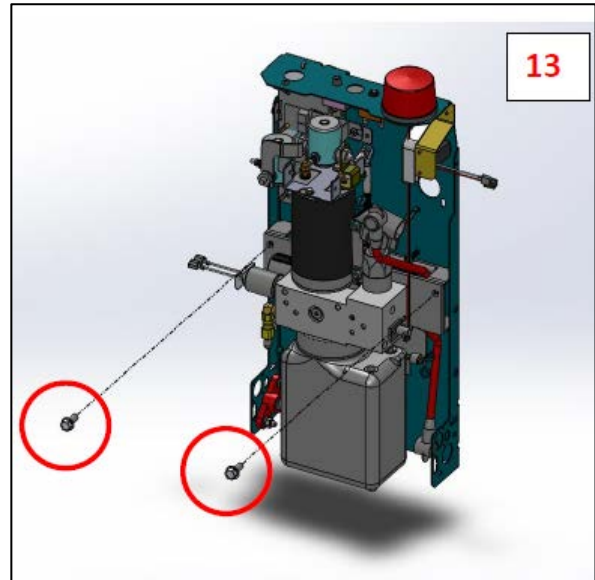

Figure 13: Reinstall Screws to Secure the Pump
17. Using a 1/2 inch wrench or socket, reinstall the two screws. See **Figure 13**.